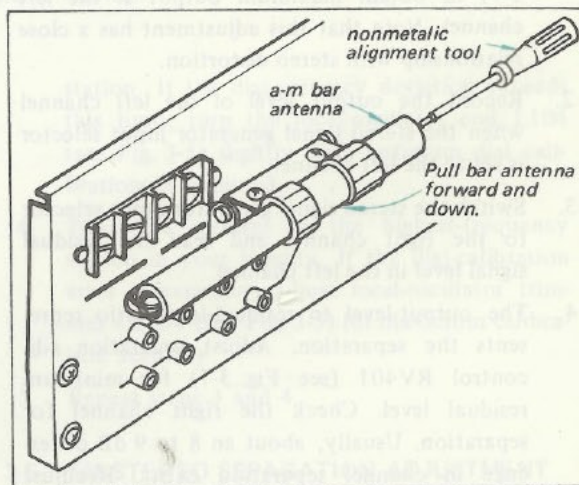

Fig. 3-9. A-m bar antenna core alignment
1. Tune the receiver to the station whose carrier frequency is closest to 620 kHz and adjust the position of a-m bar antenna core (see Fig. 3-9) for maximum output.